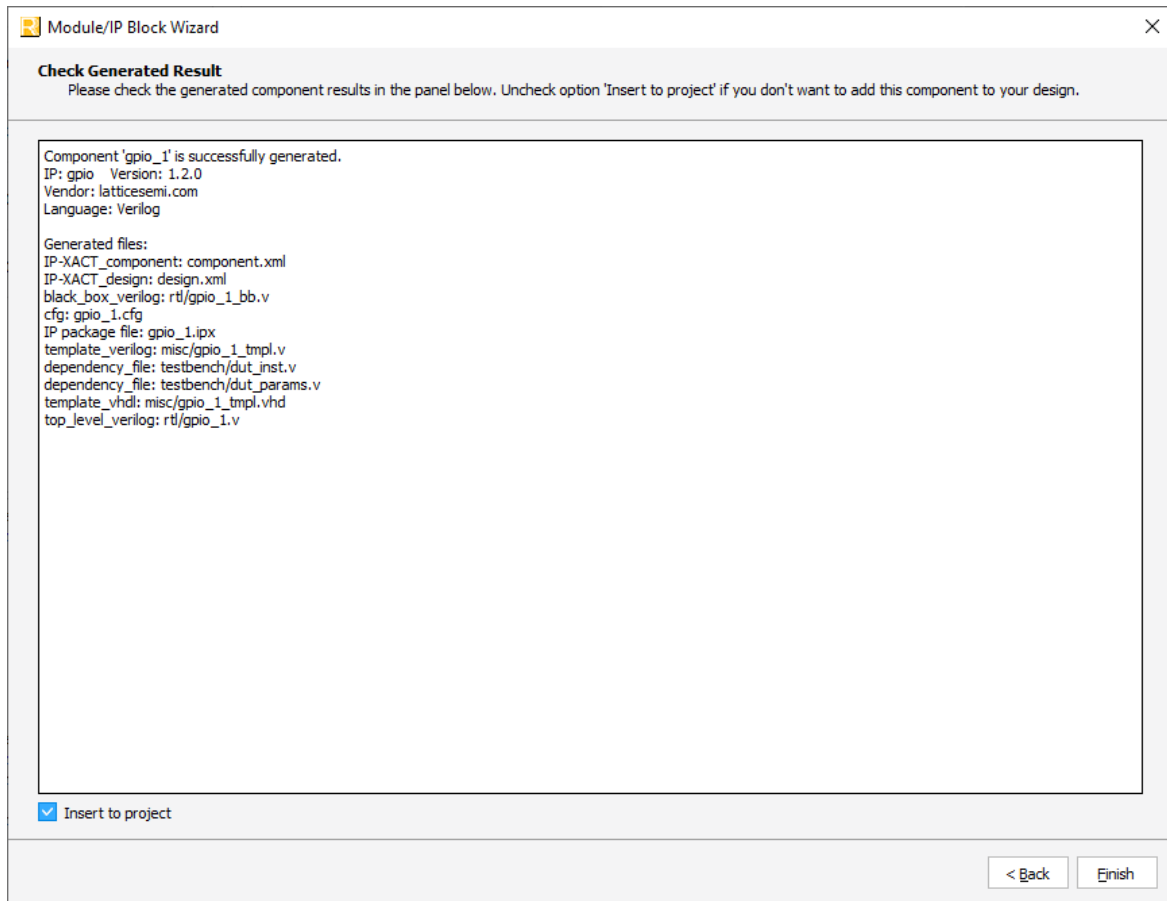

Figure 3.2. Check Generating Result
4. Click **Generate**. The **Check Generating Result** dialog box opens, showing design block messages and results as shown in Figure 3.2.
5. Click **Generate**. The **Check Generating Result** dialog box opens, showing design block messages and results as shown in Figure 3.2.